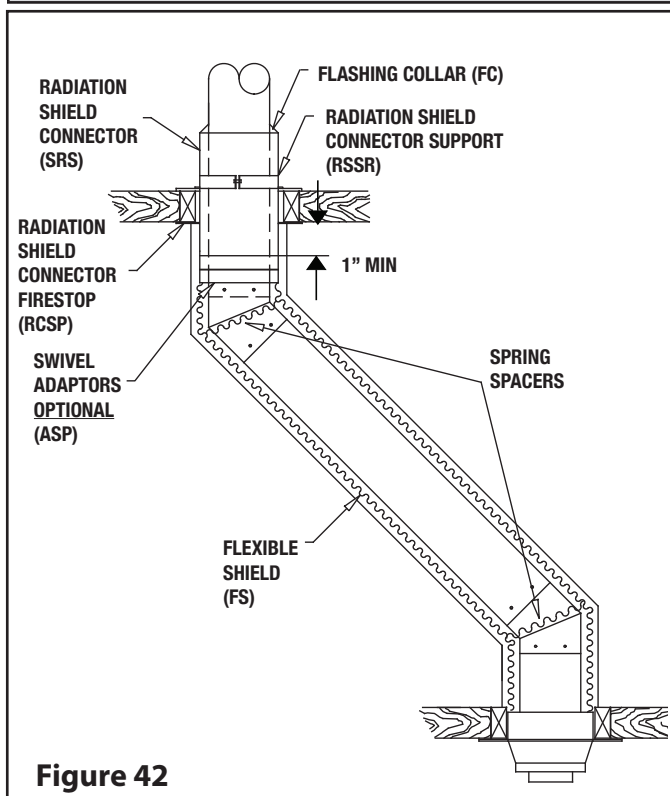

Figure 42
- Slide a Flexible Shield (FS) on top of that length all the way to the bottom.
- At the ceiling level from the top, install a Radiation Shield Connector (SRS) and a Radiation Shield Support (RSSR) attached but not tightened together (see Figure 42).
- Step 1. Install the insulated offset elbow on the vertical chimney length. Turn it in the required direction and fasten it to the chimney with the (4)-1/2" metal screws provided.
- Step 3. Use another elbow to turn the chimney vertically. Again secure the elbow to the chimney length using the (4) 1/2" metal screws.
Attach a spacer spring around the chimney at each elbow to help keep the Flexible Shield centered. (See Figure 42) Slide the Flexible Shield up the chimney and attach it below the ceiling to the Radiation Shield Connector using (3) - 1/2" self tapping metal screws. If you are limited in space to screw, install a Swivel Adaptor (ASP) (see Figure 42) below the Shield Connector (SRS) and one on the top end of the Flexible Shield.